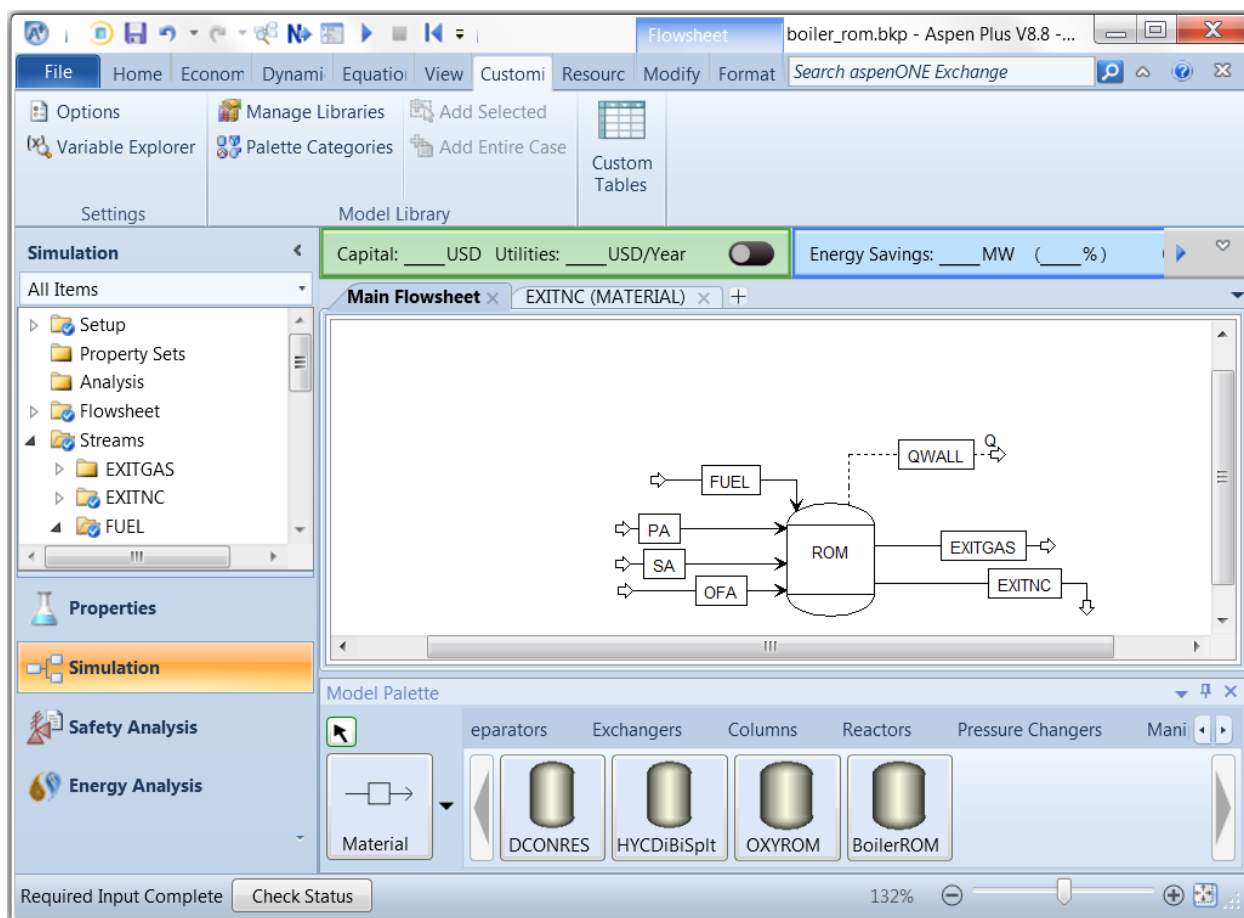

Figure 21: Aspen Plus Flowsheet With Feed and Product Streams Connected to ROM Block
9. Connect Stream EXITGAS to the “ROM” block. In the “Universal Port” dialog window that displays, select the “FlueGP(OUT)” port. Then connect Stream EXITNC to the “ROM” block. No “Universal Port” dialog window displays and Stream EXITNC is connected to the “FlySP0(OUT)” port. Finally, connect heat stream QWALL to the “ROM” block. Figure 21 shows the flow sheet with the streams connected to the “ROM” block.